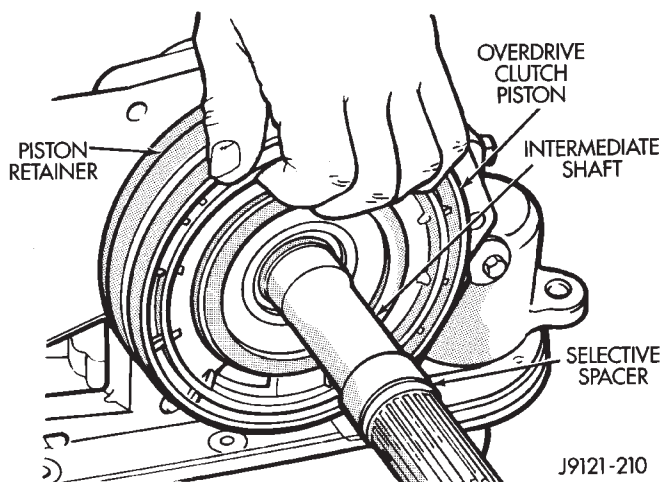
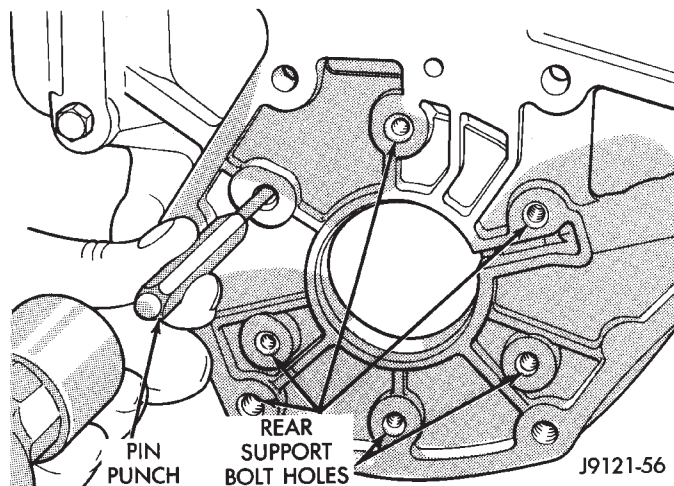

Fig. 145 Overdrive Piston Removal
Fig. 146 Overrunning Clutch Cam
- (1) Remove the overdrive piston (Fig. 145).
- (2) Remove the overdrive piston retainer bolts.
- (3) Remove overdrive piston retainer.
- (4) Remove case gasket.
- (5) Tap old cam out of case with pin punch. Insert punch through bolt holes at rear of case (Fig. 146). Alternate position of punch to avoid cocking cam during removal.
- (6) Clean clutch cam bore and case. Be sure to remove all chips/shavings generated during cam removal.